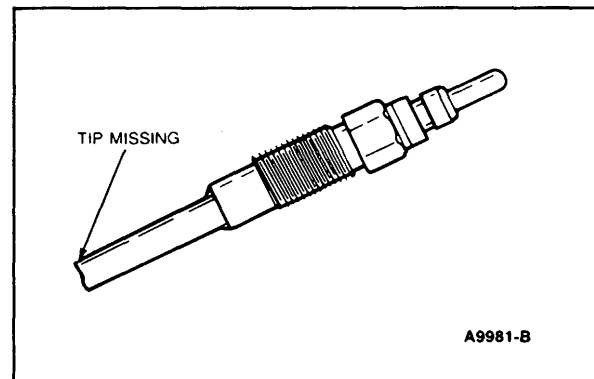

Figure 23 Missing Tips
- Glow plug tip that is missing can be caused by incorrect timing or poor fuel quality (Fig. 23).